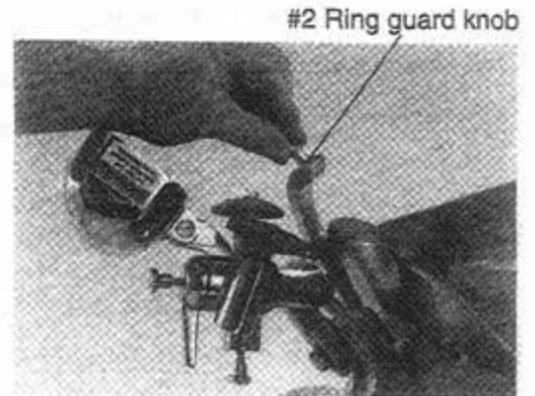

Figure 21-2
3. **Carefully** close the hinged area of the knife ring guard using the knob located at its top. (Fig. 21-2, #2)